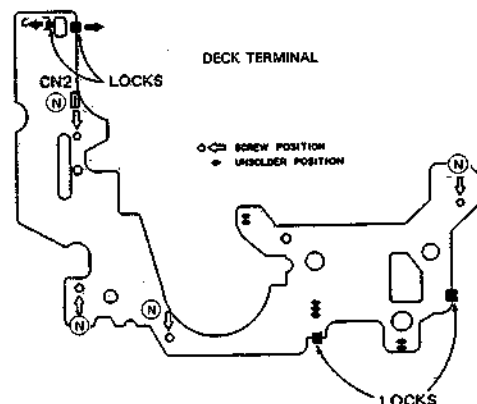

Fig. 1-1-13
2. Refer to Fig. 1-1-13 take out 4 screws (N).